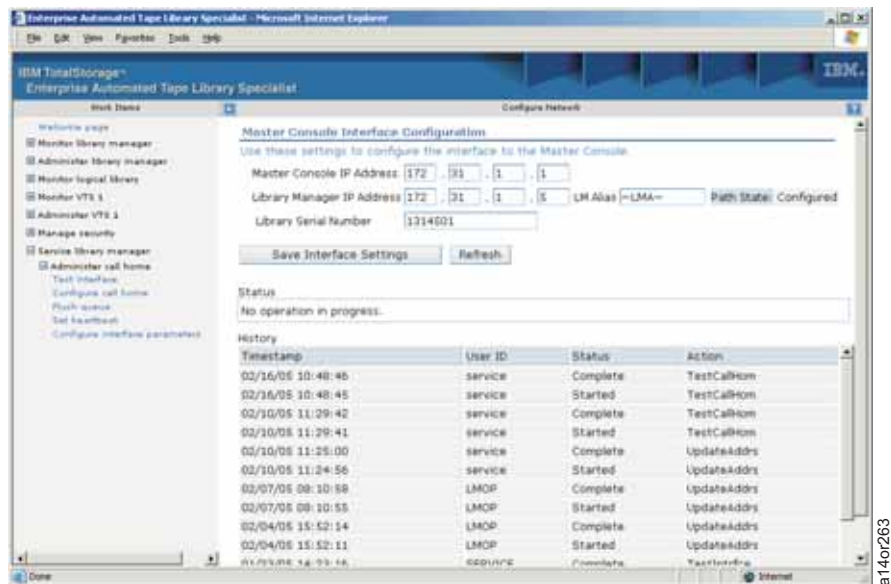

Figure 2-39. 3494 ATL Web Specialist - Configure Interface Parameters
1. From the “Administer call home” list on the Web Specialist screen (Figure 2-34 on page 2-28), click **Configure Interface Parameters** to see Figure 2-39 on page 2-32. If you are prompted for a userid and password, use the default values of **service** for the userid and **service** for the password. These values can be changed by the 3494 ATL system administrator.